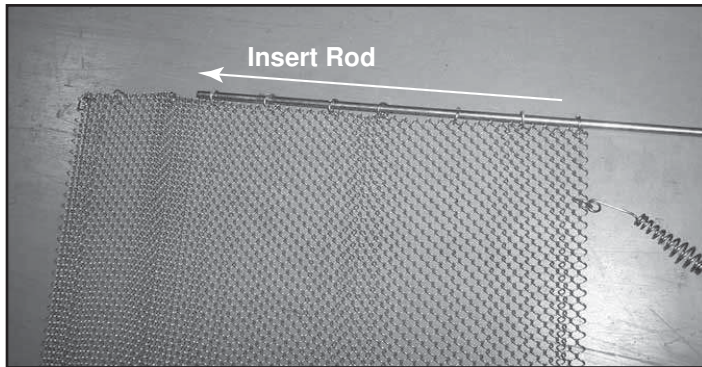

Figure 8.11 Insert Rod into Firescreen
- Insert one screen rod through the rings on top. See Figure 8.11.